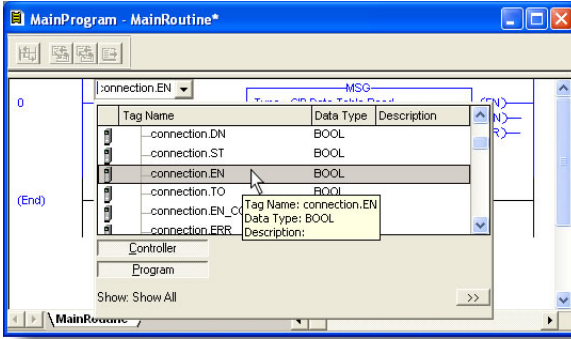

Figure 108: Configure XIO Element
- a) Double-click on the XIO element located to the left of the MSG block. In the drop-down box, double-click on the "connection.EN" field. Refer to Figure 108. This configuration causes the MSG instruction to automatically retrigger itself when it completes. While this is acceptable for the purposes of this example, it can produce high network utilization. In actual practice, it may be desirable to incorporate additional logic elements to allow triggering the MSG instruction at a specific rate or under specific conditions.